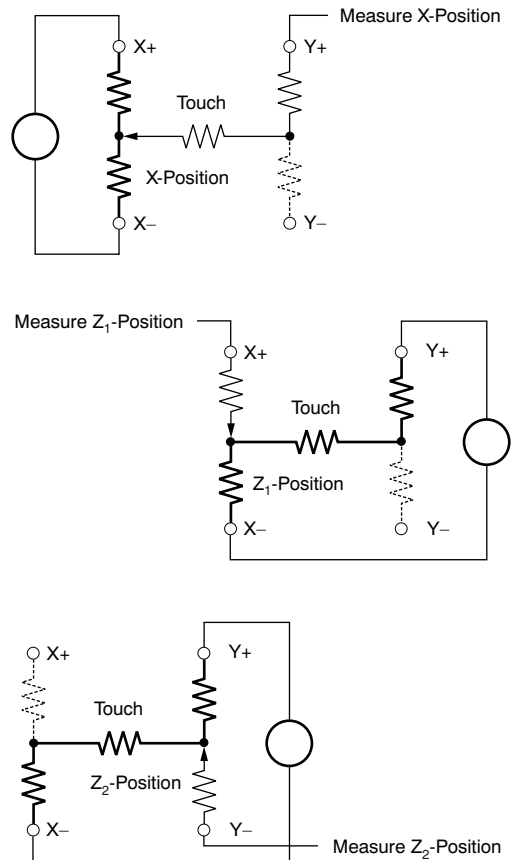

Figure 23. Pressure Measurement
Measuring touch pressure (Z) can also be done with the TSC2008-Q1. To determine pen or finger touch, the pressure of the *touch* must be determined. Generally, it is not necessary to have very high performance for this test; therefore, 8-bit resolution mode may be sufficient (however, data sheet calculations are shown using 12-bit resolution mode). There are several different ways of performing this measurement. The TSC2008-Q1 supports two methods. The first method requires knowing the X-plate resistance, the measurement of the X-Position, and two additional cross panel measurements (Z_2 and Z_1) of the touch screen (see Figure 23). Equation 1 calculates the touch resistance: